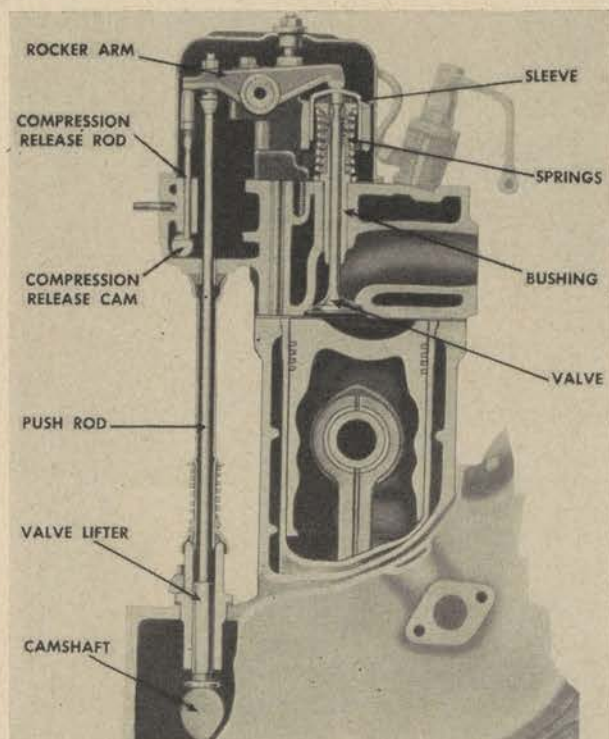

Figure 145. Valve mechanism.
3. Crank the engine in the direction of normal rotation until the inlet valve on No. 1 cylinder closes. This is the point at which the valve and valve guide sleeve (fig. 145) reach the highest point of travel. Now give the engine an additional one-half turn and adjust both valves on No. 1 cylinder at the same time.
(4) *Compression release.* (a) *General.* The compression release mechanism (fig. 145) consists of a cam shaft in the right side of each cylinder. This creates a cam action to raise the auxiliary